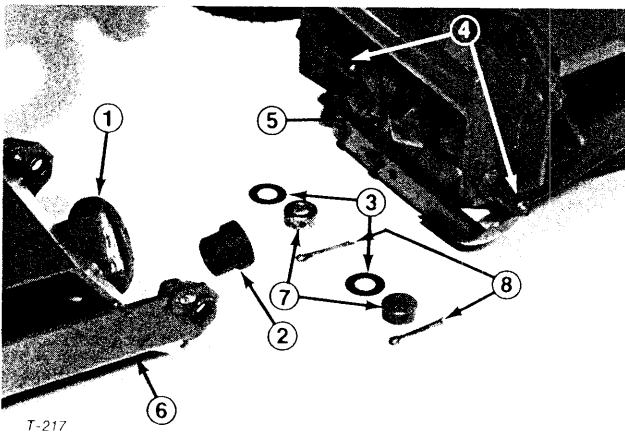

Figure 7
2. Check each end of reel drive shaft to be sure reel drive pads are installed, mount (2) washers onto each pivot stud (four per unit), align pivot studs with intermediate frame holes, drive ball with drive shaft and attach each cutting unit to the frame (Fig. 7).
3. Mount collars onto pivot studs and insert cotter pins to secure cutting units to frame (Fig. 7, 8).